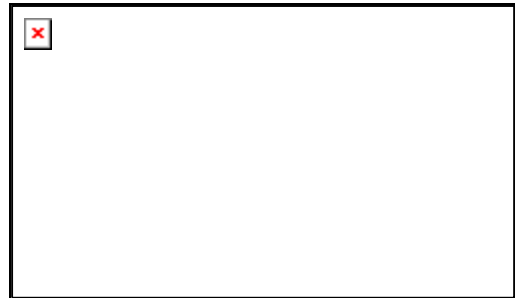

fig. 18: Characteristic curve of the tension reduction C433007e
If the end of the reel should be wound smoother than the center of the reel, a tension reduction can be parametrized. The characteristic curve can be chosen as a linear, square or square root function (fig. 18). But, the tension reduction is only active if the pilot control is also active, that means the actual diameter has to be calculated internal or external.
- Set parameter *Tension reduction* to required curve (fig. 18) (ref. to „11. Parametrization“)